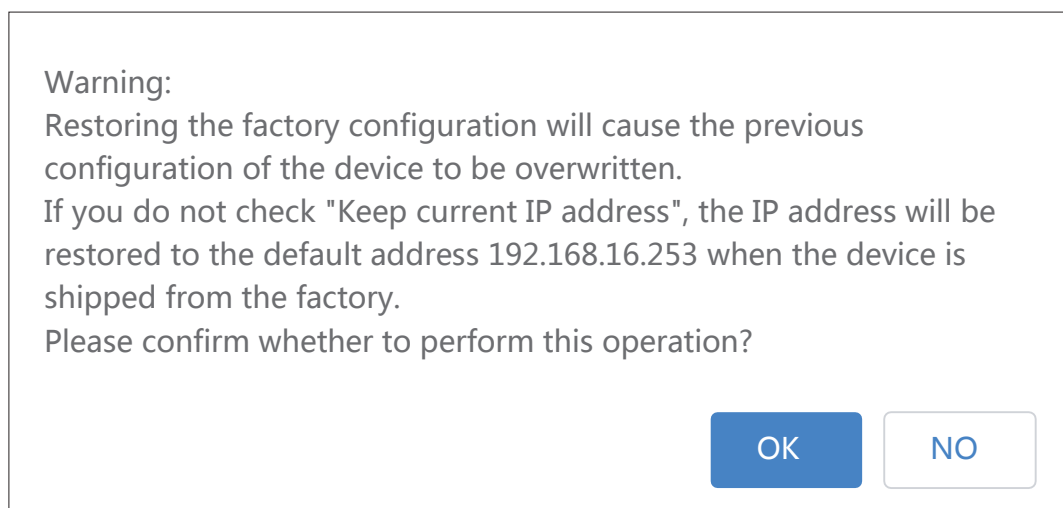

Figure 2-32 The warning message when the device is restored to factory configuration
- Restore the factory settings of the device: This function is used to restore the Mport serial server to the factory settings and automatically restart the serial server at the same time. Before the serial server restarts successfully, the serial server does not work and cannot forward any data packets. This function is to restore the factory default configuration value once the user sets the wrong parameter and causes the serial port server to work abnormally. There is the option of "Keep the current IP address" on the right. When checked, the current IP address will be retained. If not checked, the IP address will also be restored to the factory default address: 192.168.16.253. Click the "Start" button, and a prompt box will pop up on the page, as shown in Figure 2-32. Click "OK" to jump to the waiting page. After the progress bar in the page is read, the serial port server is restored to its factory configuration.